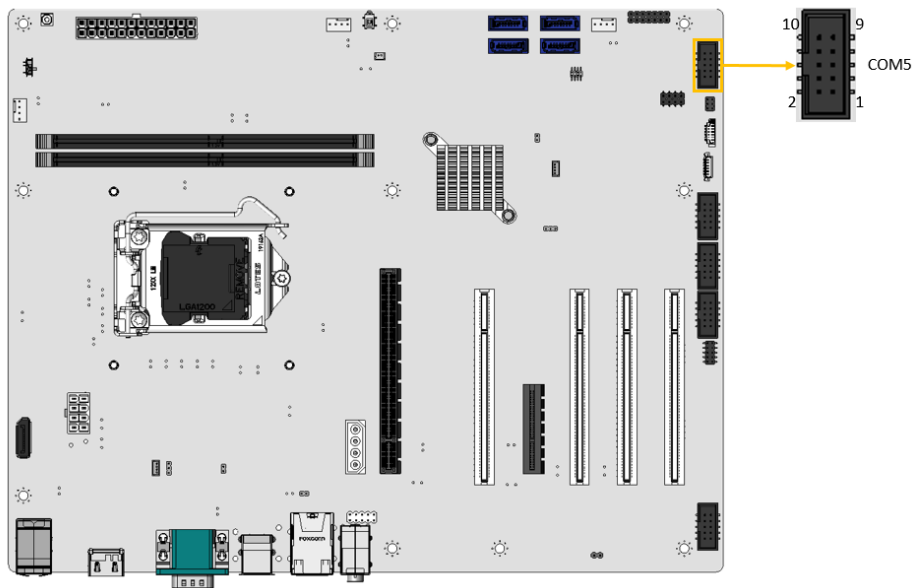

Figure 3-24: RS-232/422/485 Connector Location
- CN Location:** See **Figure 3-24**